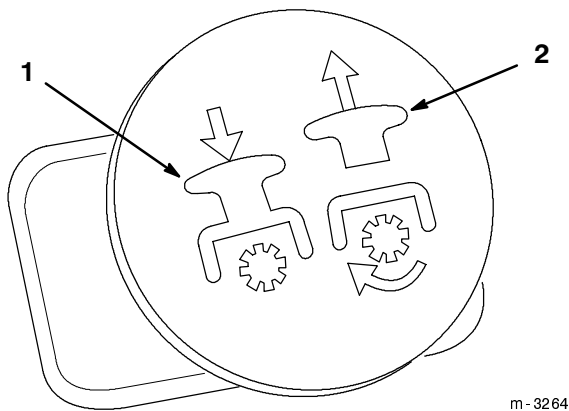

Figure 13
3. Pull the PTO switch to the On position (Fig. 13).